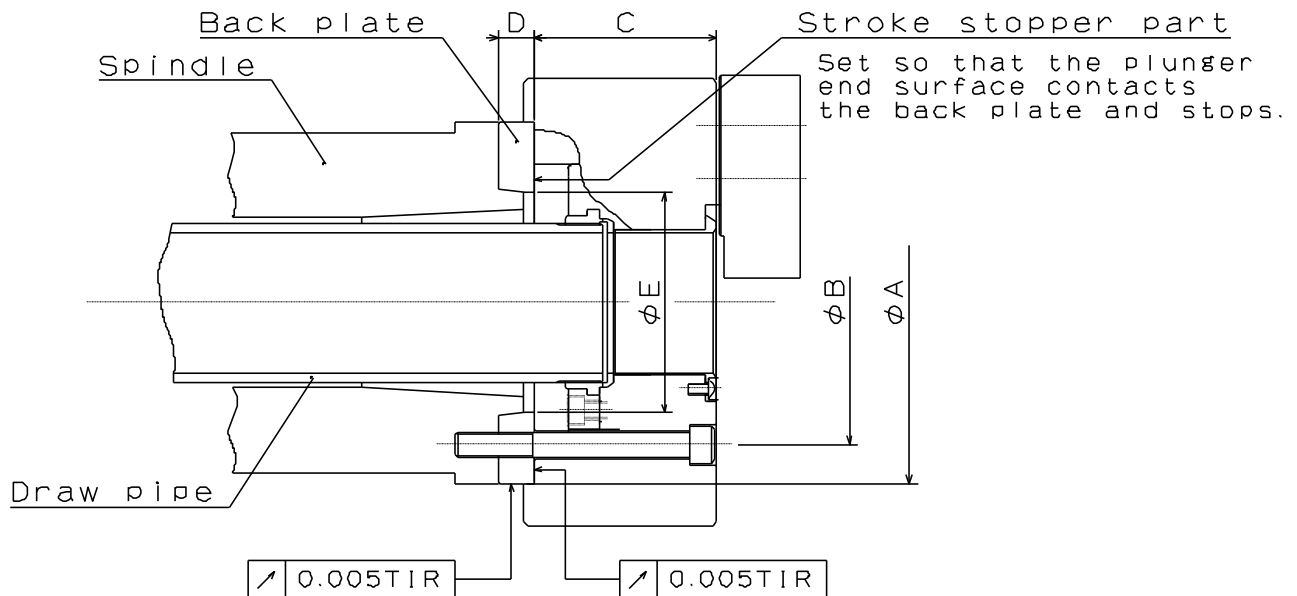

Fig.17
- Fig.17 shows the case of the JIS short taper standard.
- Determine the dimension (dimension  $\phi E$  in Fig.17) of the back plate so that the plunger nut end surface contacts the back plate and stops when pulling the plunger nut. If the stroke is larger than the one specified, it may cause a chuck breakage or gripping failure.